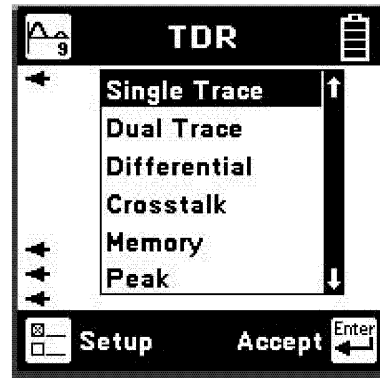

Figure 13. AST900 TDR Display
32. 900 AST TIME DELAY REFLECTOMETER (TDR) (Figures 13 and 14).
The TDR function allows the user to select one of the six modes available (shown in Figure 13).